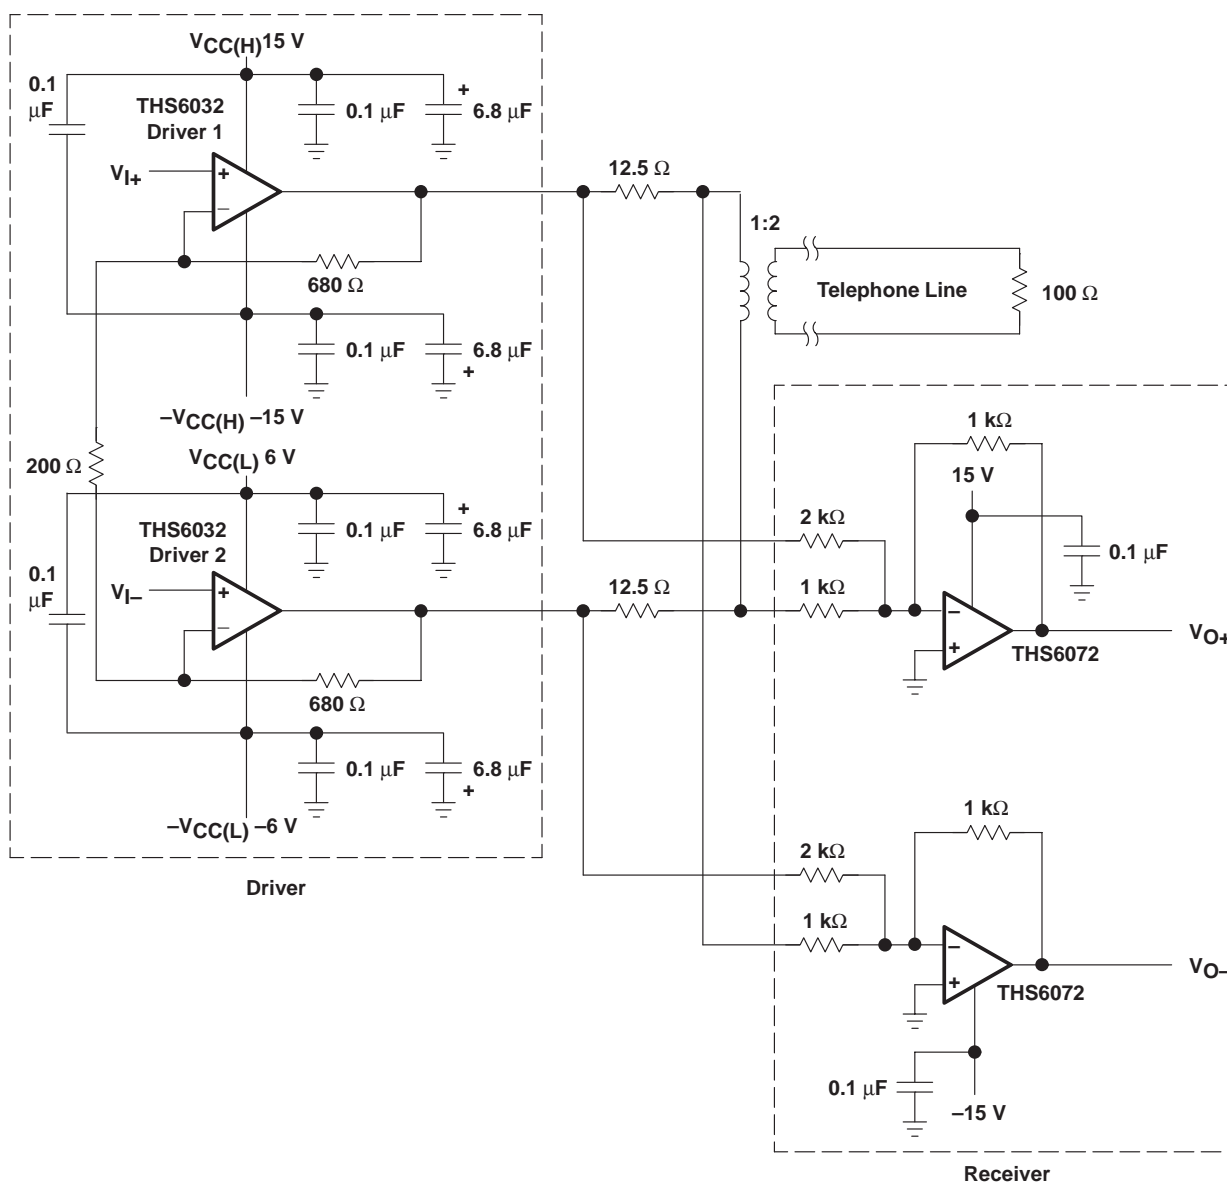

Figure 36. THS6032 ADSL Application
The THS6032 was primarily designed as a low-power line driver for ADSL (asymmetrical digital subscriber line). The driver output stage has been sized to provide full ADSL power levels of 20 dBm onto the telephone lines. Although actual driver output peak voltages and currents vary with each particular ADSL application, the THS6032 is specified for a minimum full output current of 400 mA at its full output voltage of approximately 11 V. This performance meets the demanding needs of ADSL at the central office end of the telephone line. A typical ADSL schematic is shown in Figure 36.
- Differential power supply decoupling – The THS6032 was designed for driving low-impedance differential signals. The 25  $\Omega$  load which each amplifier drives causes large amounts of currents to flow from amplifier to amplifier. Power supply decoupling for differential current signals must be accounted for to ensure low distortion of the THS6032. By simply connecting a 0.1- $\mu$ F ceramic capacitor from the + $V_{CC(H)}$  pin to the - $V_{CC(H)}$  pin, along with another 0.1- $\mu$ F ceramic capacitor from the + $V_{CC(L)}$  pin to the - $V_{CC(L)}$  pin, differential current loops will be minimized (see Figure 36). This will help keep the THS6032 operating at peak performance.
The THS6032 incorporates a shutdown circuit to conserve power. Traditionally when an amplifier is placed into shutdown mode, the input and output circuitry are turned off. This conserves a large amount of power, but the output impedance will be a very high, typically greater than several k $\Omega$ . This situation does not allow for proper line termination resulting in a severe reduction of the receive signal coming through the transmission line (see Figure 36).